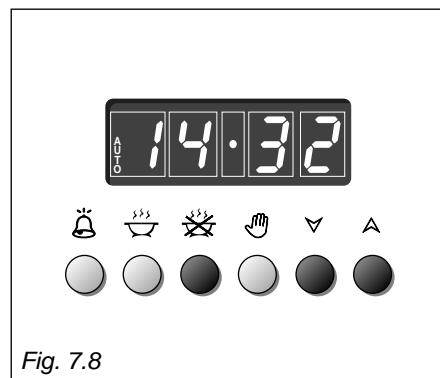

Fig. 7.8
2. Set the time you need the food to stop cooking by pushing the ☰ button and the ⌂ button to advance, or ⌃ to go backwards if you have passed the desired time (Fig. 7.8).